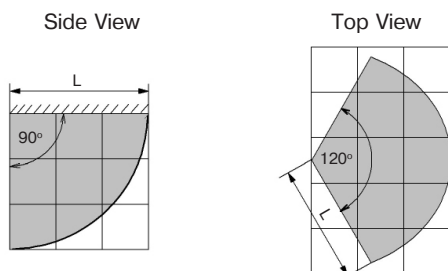

Figure 1 – Glass Break (GB) channel Detection Pattern
- when choosing the place of installation, the Detector detection zone location must be taken into account (Figure 1);